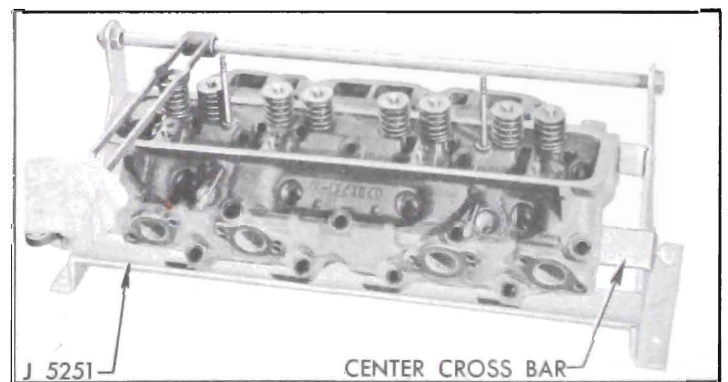

Figure 2-16—Removing Valve in Holding Fixture J 5251
1. Place cylinder head on Holding Fixture J 5251 with valve springs straight up. Compress valve springs with fixture lever and remove the spring cap keys, then remove the springs and caps. See figure 2-16.